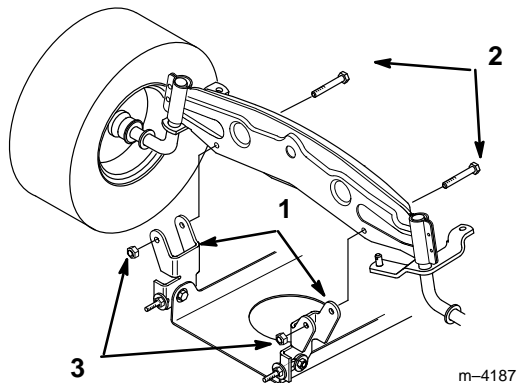

Figure 42
5. Install the mower pivot mount brackets to the front axle with bolts and lock nuts (Fig. 42).